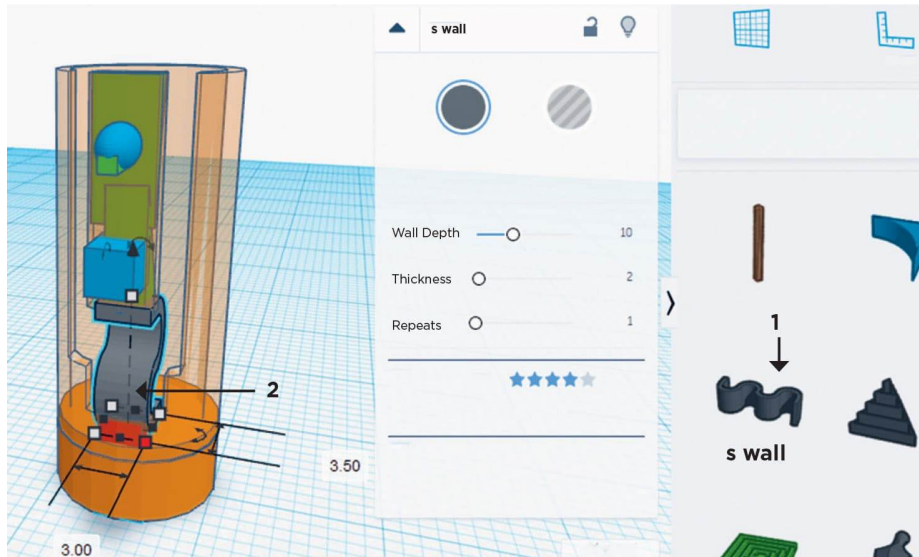

FIG. 6: Add an S-wall to serve as a spring for the button strip.
7. The button strip has to flex with each press of the button. This feature is added to the button strip by separating it from the inner tube and then reattaching it to the tube using the **S-wall** tool (which mimics a spring). One end of the **S-wall** tool connects to the base of the inner tube and the other connects to the button strip. The height should be set so the buttons will line up with the holes on the head casing. Fig. 6 shows a transparent inner tube, so we can easily see the **S-wall** tool. Arrow 1 shows where to find the tool, and arrow 2 shows the location and orientation of the tool in the design.